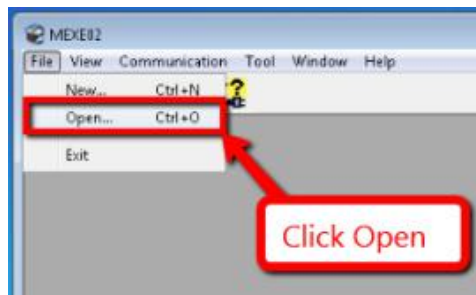

Figure 14 MEXE02 Software interface
13. Click Open as shown in the Figure 14.